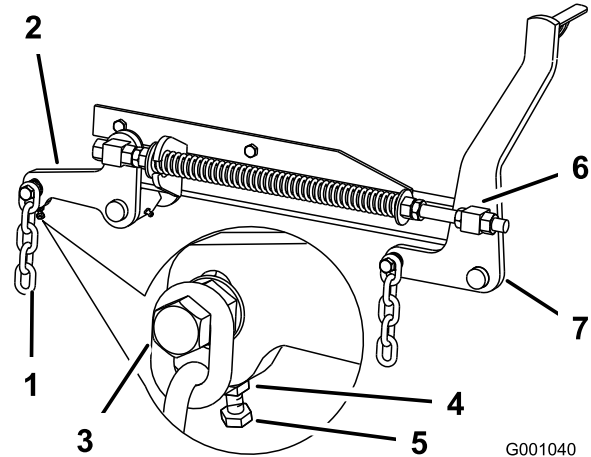

Figure 84
7. If the measurements at positions **B** or **C** are not correct, loosen the bolt attaching the rear chain to the rear support arm (Figure 84).
8. Loosen the jam nut under the rear support arm and adjust the adjustment bolt to get a measurement of 80 to 83 mm (3-1/8 to 3-1/4 inches) (Figure 84).
7. Loosen the front swivel jam nuts, at the front of the right and left swivels, approximately a 13 mm (1/2 inch) (Figure 84).
8. Adjust the lift nuts on both the left and the right side of the machine to achieve 6 to 10 mm (1/4 to 3/8 inch) lower in front at **A** than in the rear at **B** (Figure 84).